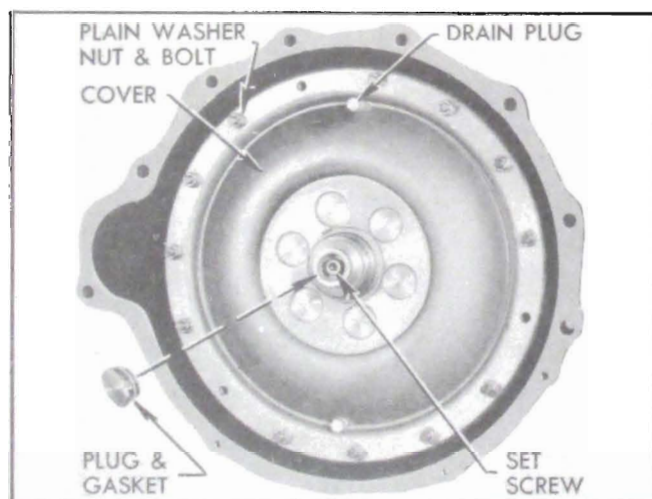

Figure 4-11—Converter Pump Cover
2. Remove large hex plug and gasket from hub of converter pump cover, then remove the socket set screw and lockwasher located in the hub, using hex wrench ( $\frac{5}{16}$ " across flats). See figure 4-11.